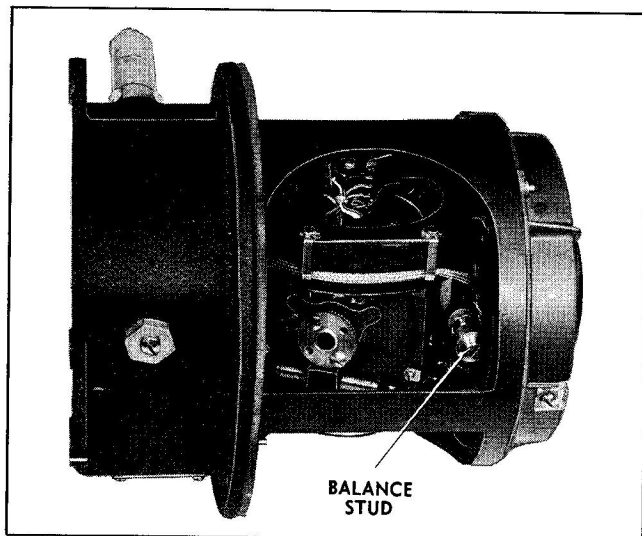

Figure 4-17 Static Balancing of Gyro and Vertical Ring Assembly - Housing Axis Vertical
(2) Leave the assembly in the same position and rotate the vertical ring until the gyro housing axis is vertical, with the large balance nut down. (See figure 4-17.) Balance